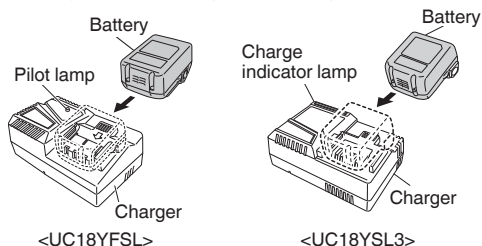

Fig. 11
2. **Insert the battery into the charger.** (Fig. 11)